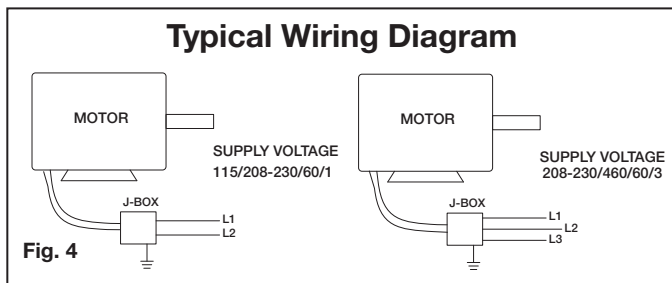

Fig. 4
10. Mount and wire safety disconnect switch under motor cover. Wire control switches at ground level, refer to figure 4.